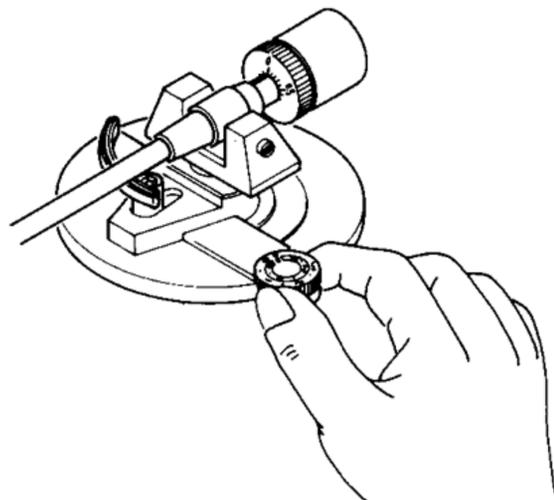

Fig. 4 Abb. 4
2. Turn the anti-skating knob to make its "0" mark aligned with the index mark. (Fig. 4)